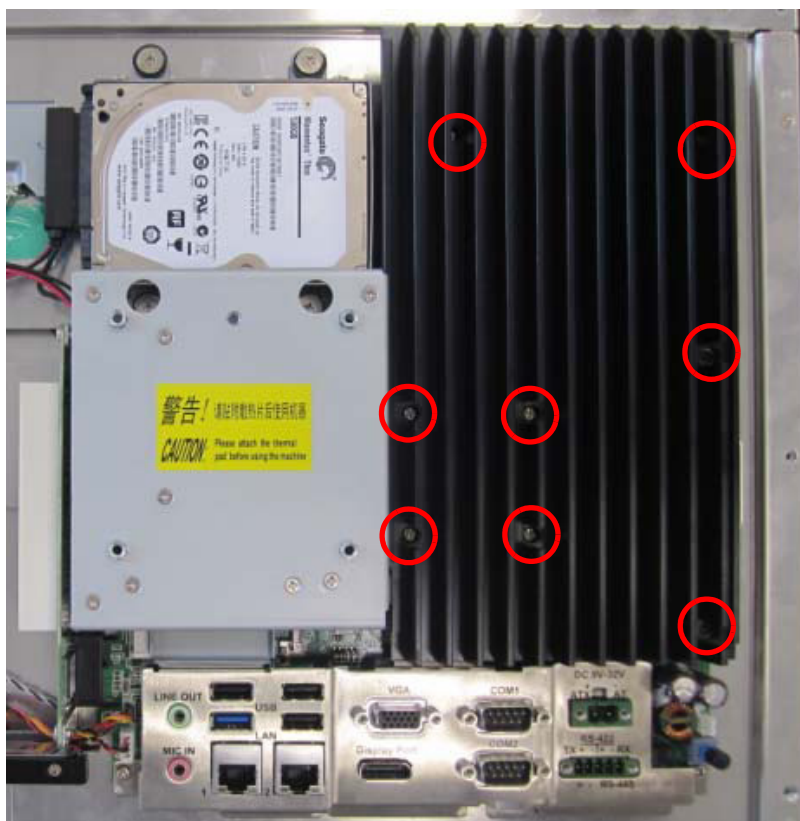

Figure 2.8
- Remove the eight screws on the heatsink (circled in red in Fig. 2.8) and remove the heatsink.